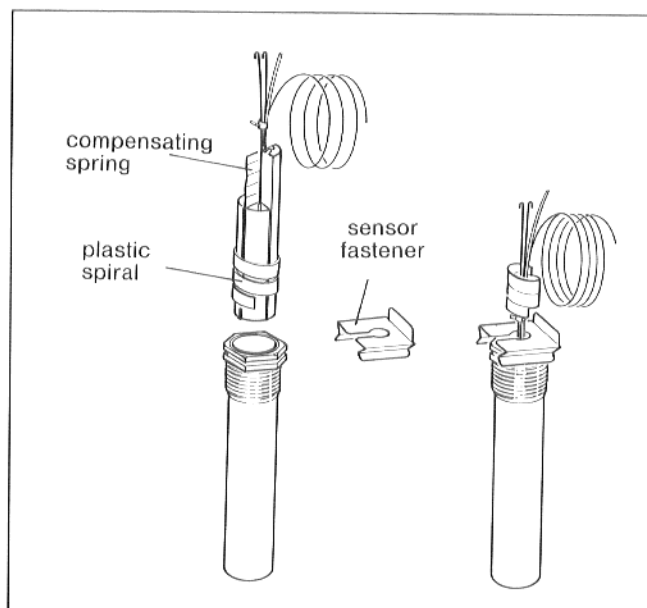

Fig. 39 – Sensor pocket
- Press the sensor fastener (scope of supply control panel) from the side or from above onto the head of the sensor pocket (see Fig. 39).
- * – thermostat (TR)